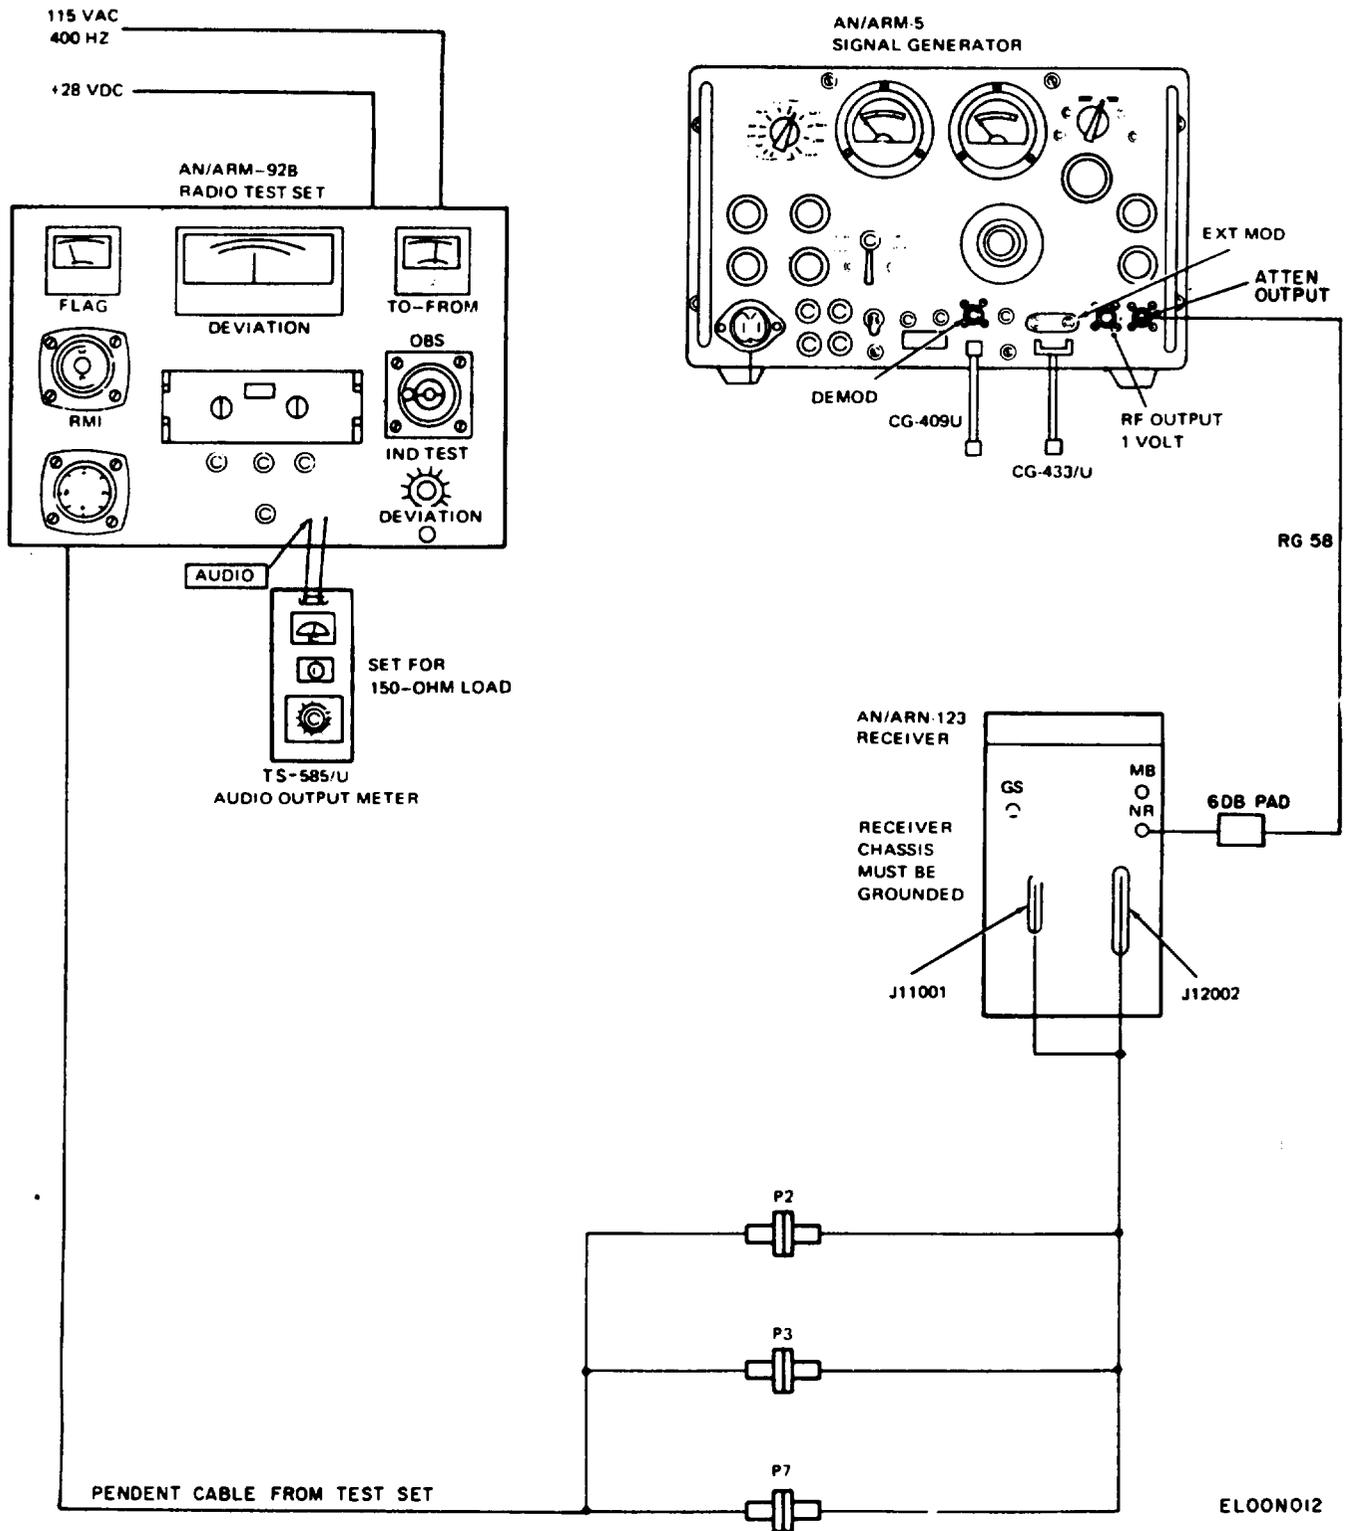

Figure 3-4. Bench Test Setup for VOR/LOC Tests using AN/ARM-5A.
a. *Test Setup.* All VOR and LOC bench tests are performed according to the test setup in figure 3-4. Coaxial cables with 52-ohm characteristic impedance are used for all rf and modulation interfaces. Test set cable plugs P2, P3, and P7 mate with jacks J2, J3, and J7 on Receiver Adapter Cable CX-13034/AR. Plugs P11001 and P12002 on the receiver adapter cable connect to J11001 and J12002 on the receiver panel.
(1) Set the OMNI TRACK switch of the AN/ARM-5A to 0.
(2) Set the BEARING switch on the AN/ARM-92B to OBS.
(3) Set the OBS control on the AN/ARM-92B to 315°.
(4) Actuate the TEST switch on the AN/ARM-92B CONTROL panel.
(5) The DEVIATION meter on the AN/ARM-92B must indicate zero  $\pm$ 120 microampere. (Allow time for the meter to settle.)
(6) The TO-FROM meter on the AN/ARM-92B must indicate greater than 500 microampere to the left of zero.
(7) The FLAG meter on the AN/ARM-92B must indicate 220 microampere minimum.
(8) The RMI pointer on the AN/ARM-92B must point between 308 and 322 degrees.
(9) Release the TEST switch.
*a. Test Setup.* The LOC bench test are performed with the same test setup as used for VOR bench tests (fig. 3-4).